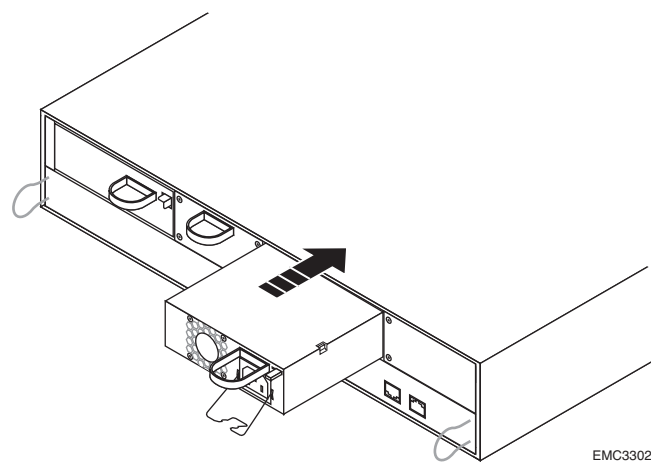

FIGURE 14. Installing an SSR212PP-Series Power Supply
- STEP 4.** Gently insert the new power supply straight into the storage system, being sure to completely seat the supply (Figure 14).